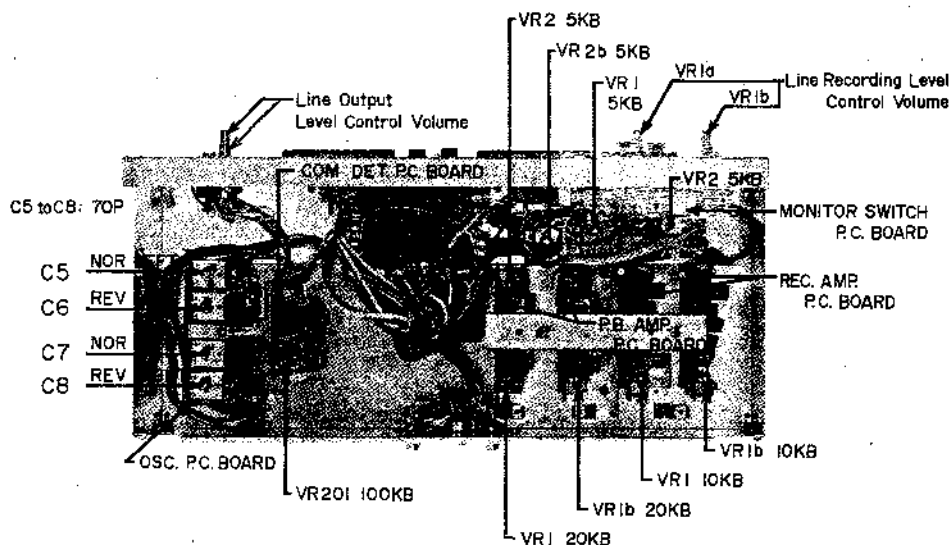

Fig. 16
(See Fig. 16)
- 2) Adjust OSC. P.C. Board semi-fixed capacitors C-5 to C-8 (70P) so that a 10 kHz signal output level is within  $\pm 1/-0$  dB in relation to 1,000 Hz. (See Figs. 16 & 17)